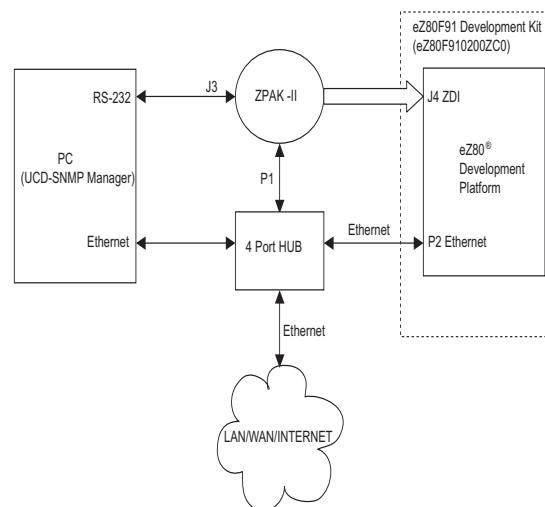

Figure 2. Setup to Test SNMP Demo
The basic setup to assemble the Demo is displayed in Figure 2. This setup displays the connections between the PC, LAN/WAN/Internet, and the eZ80 Development Platform with the eZ80F91 Module.
2. Make the connections as per Figure 2. Follow the jumper settings provided in the section on Jumper Settings.